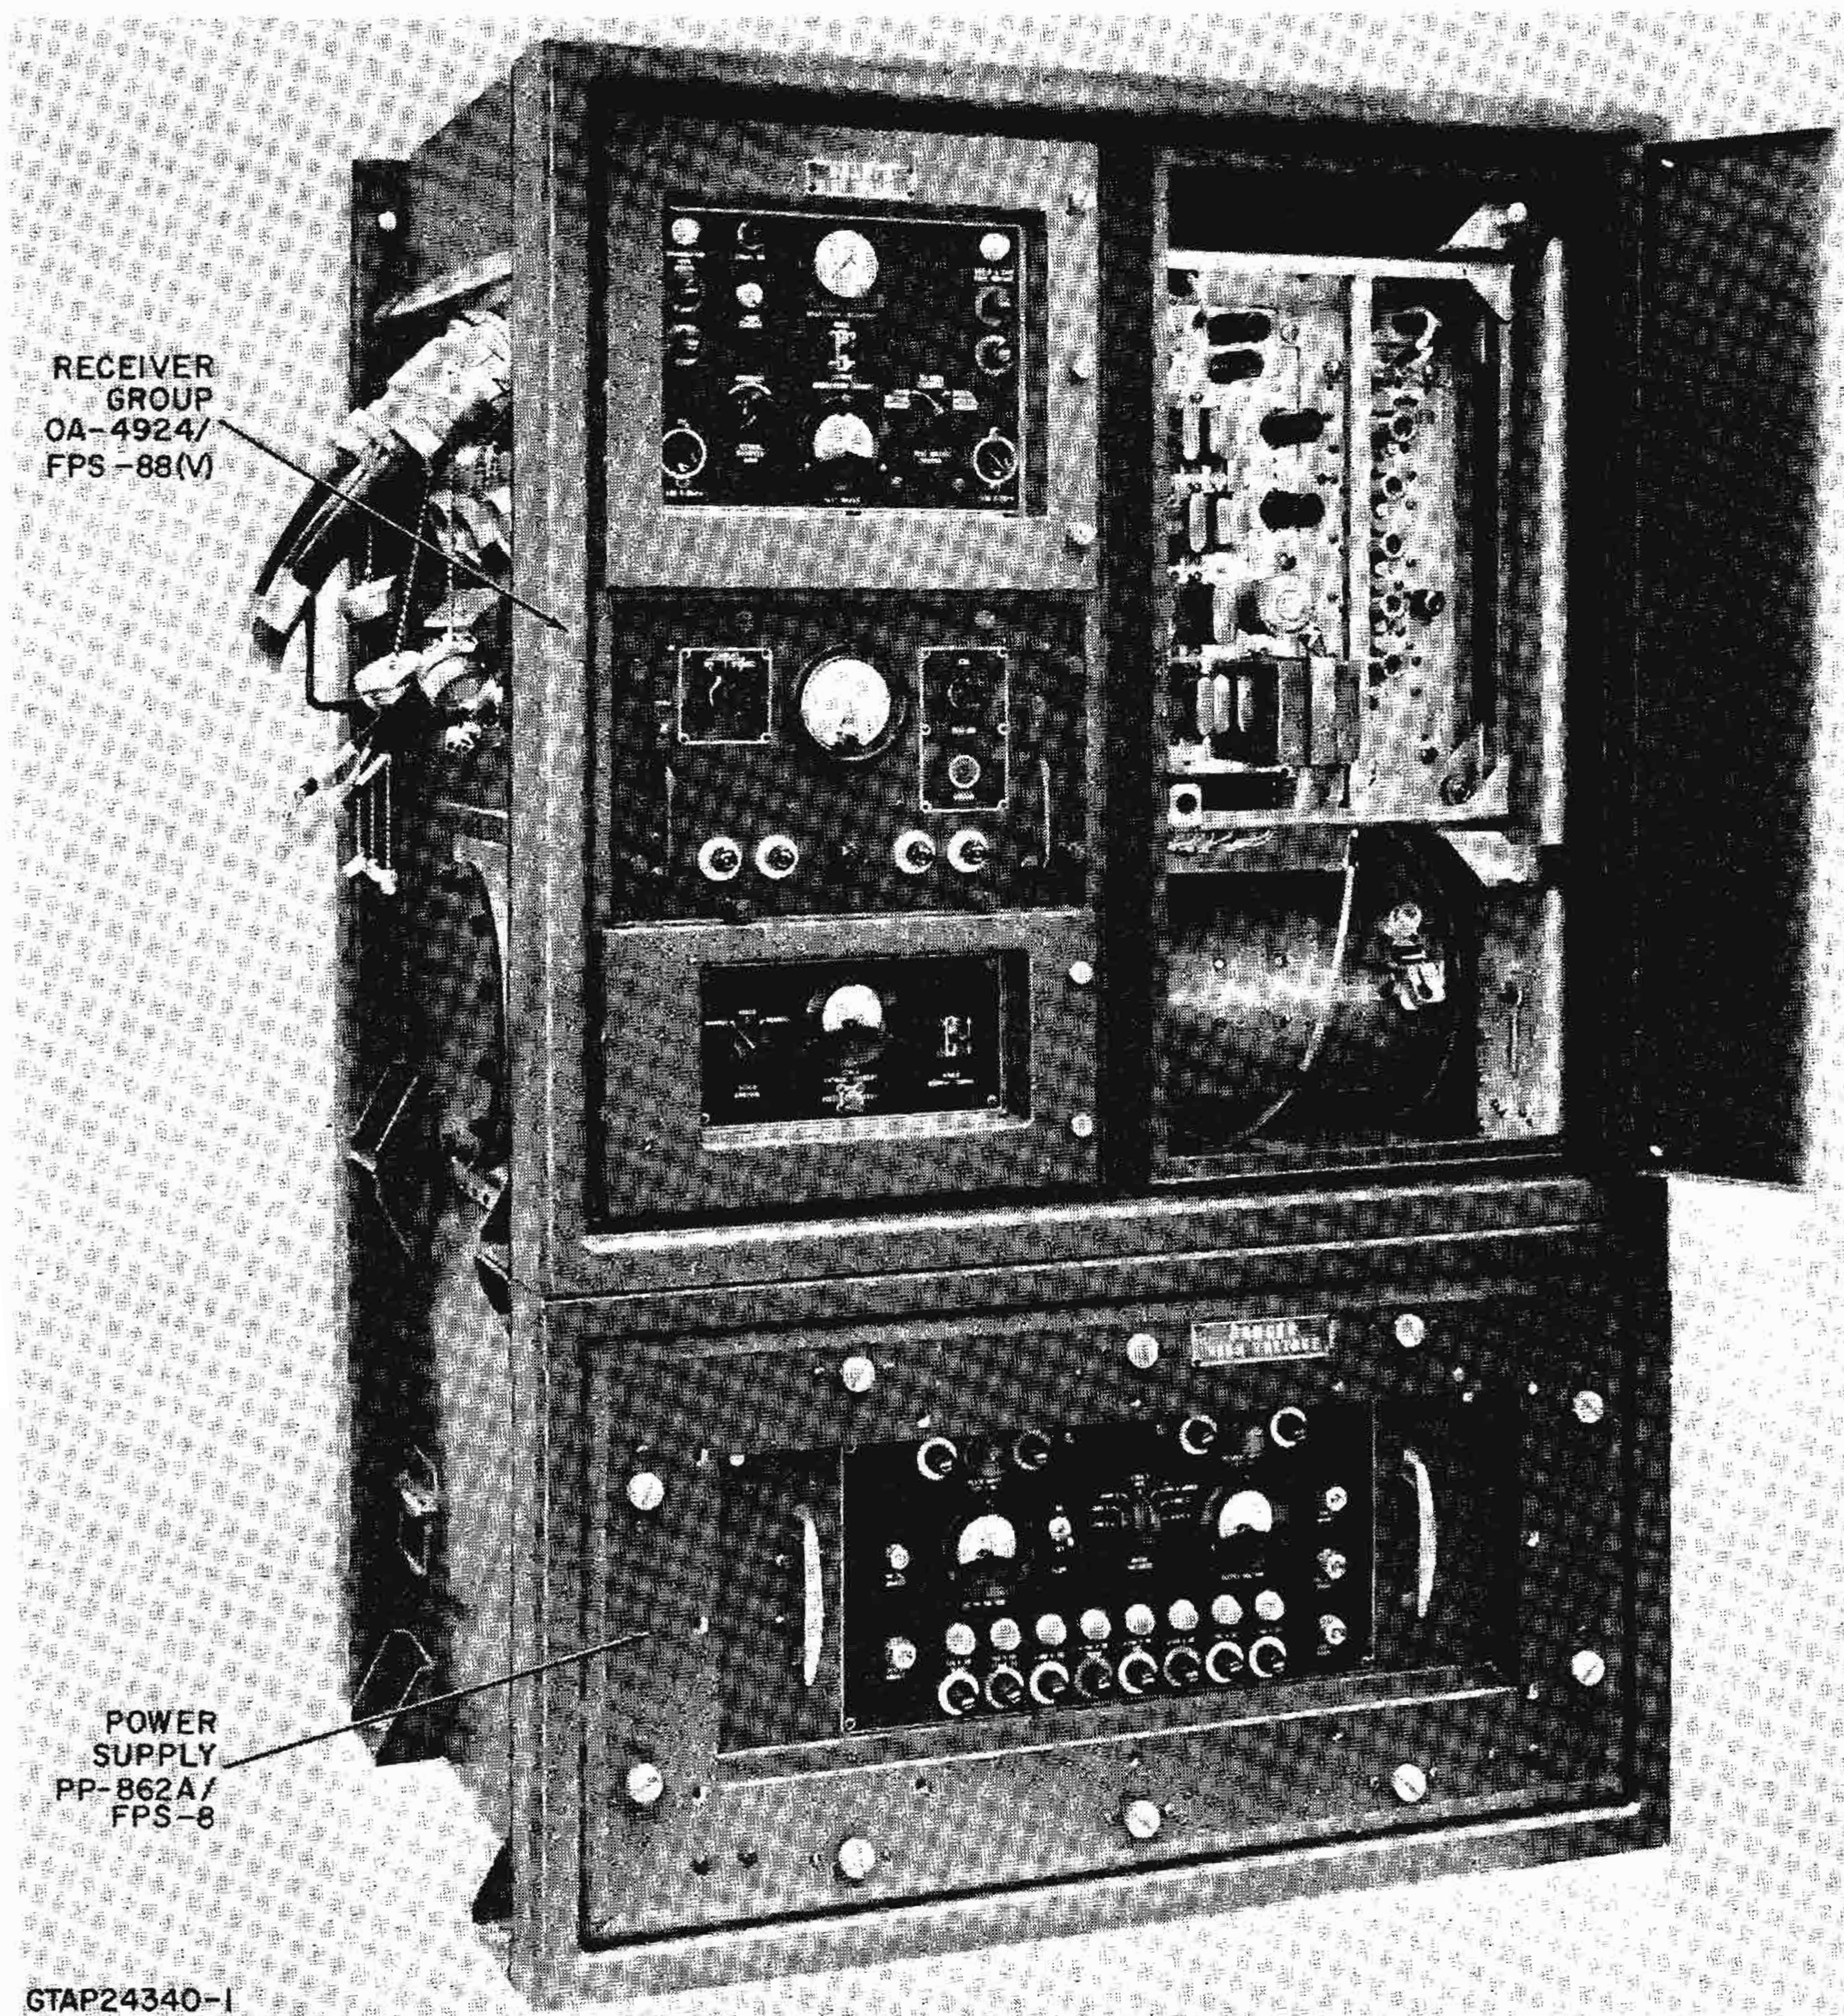

Figure 5-2. Power Supply-Receiver Group OA-4923/FPS-88(V)
(1) All references to Receiver Group OA-417/FPS-8 are replaced with Power Supply-Receiver Group OA-4923/FPS-88(V).
(2) All references to an r-f amplifier are replaced with parametric amplifier.
(3) All references to Radar Receiver R-524/FPS-8 are replaced with Receiver Group OA-4923/FPS-88(V).
(4) All references to Power Supply PP-862/FPS-8 are replaced with Power Supply PP-862A/FPS-8.
(5) Figure 5-2 replaces figure 1-16.